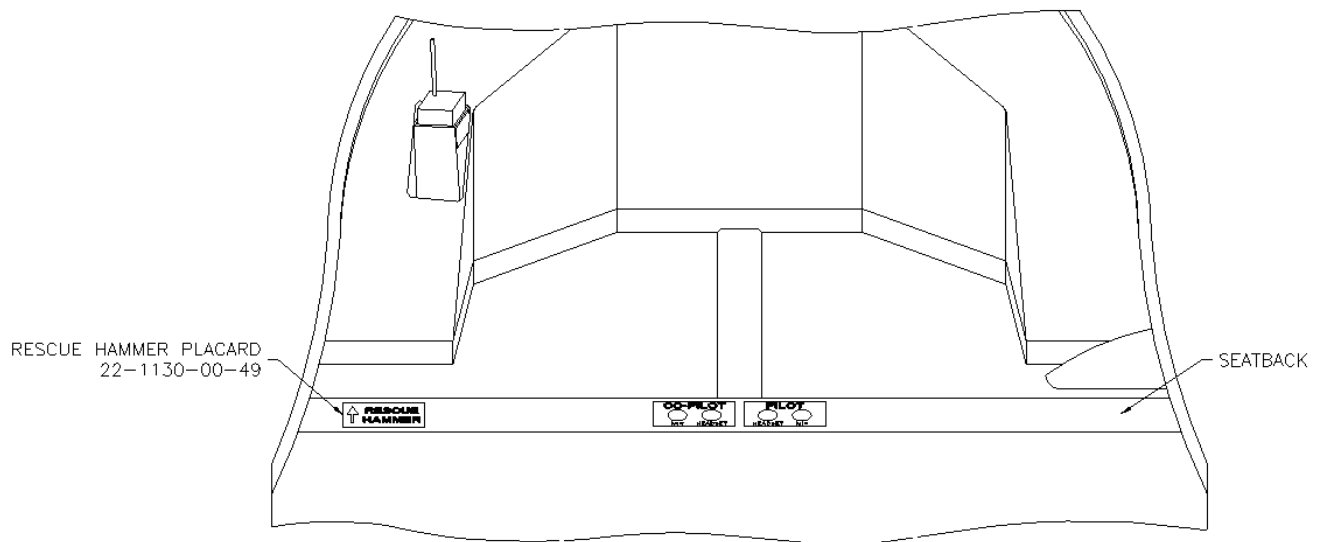

Figure 3
- 10.10 Install rescue hammer placard (p/n 22-1130-00-49) onto seatback as shown in Figure 3. Position placard in between canopy arm pivot and harness attachment.